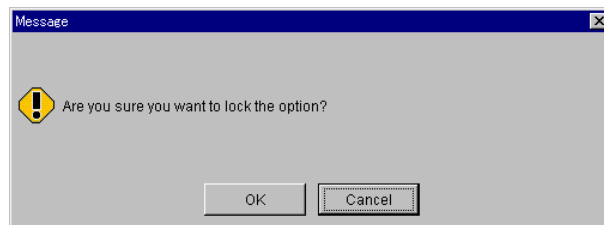

Figure 4.11 Option Lock Confirmation
7. A screen appears, requesting confirmation to lock the SNMP option (see Figure 4.11). Click the **OK** button.